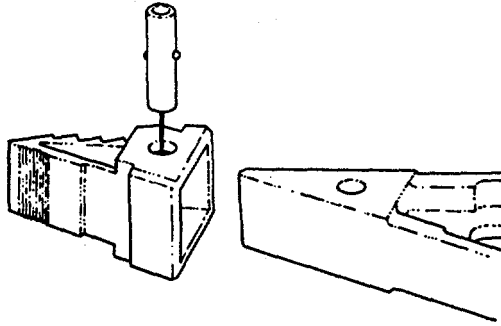

Figure 2-7.
- 2.3.1. Push the RETAINER PIN out of the JAW TIP. Replace the worn JAW TIP as required. Push the PIN back into place. (Figure 2-7)